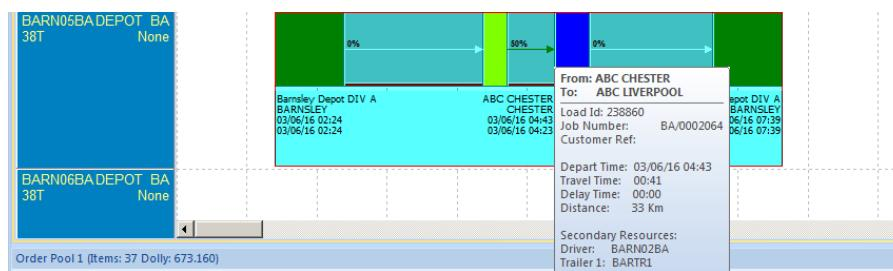

Figure 37
- Collection/Departure Locations, Planned and Actual Arrival/Departure Times, Travel Time, Delay Time, Distance, Secondary Resources for each Leg travelled (Figure 37)
Arrows and a loaded % are displayed on the Gantt to indicate if a leg of the Load is Empty, Full, Under or Severely under capacity (colours for these arrows and the labels (e.g. capacity percentage) displayed are customisable – see the customising ESP section for further information) In the example in Figure 37, the load is only 50% of the allocated trailer capacity (see the section on Capacity Checking)